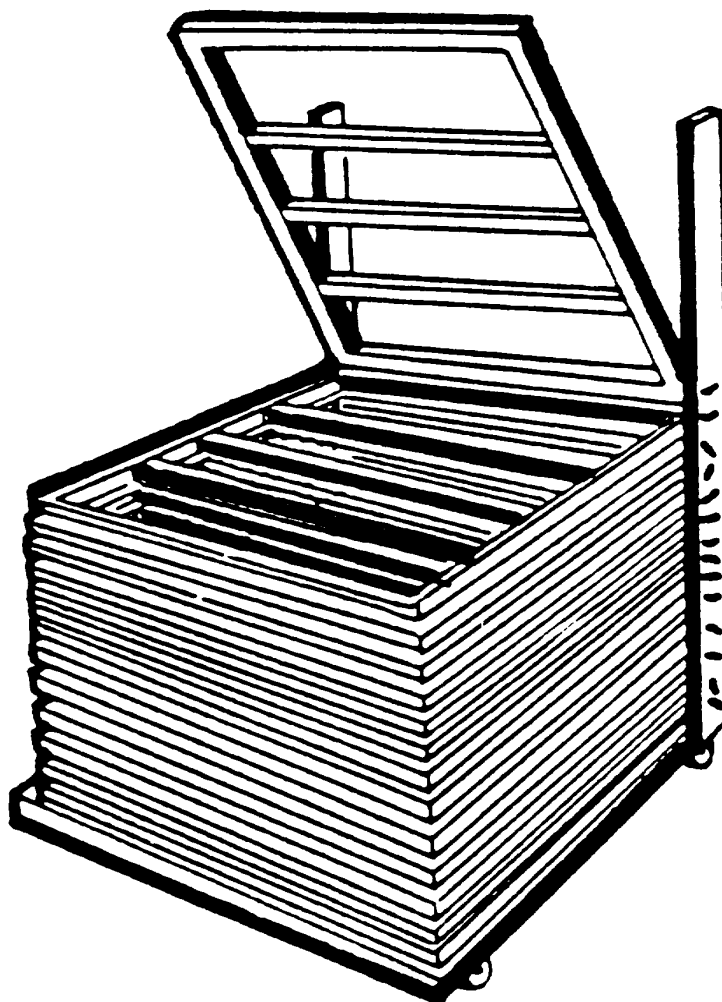

Figure 6-10. Drying Rack
(4) Lift the screen, remove the printed piece, and place it on a drying rack, as illustrated in figure 6-10. To continue the process, insert an unpainted piece, lower the screen, and squeegee in the opposite direction.
(5) When the first color has been applied to all of the pieces that are to be printed, the film or mast must be removed from the silk and replaced with the film that was cut for the second color.
(1) When a job is to be repeated at frequent intervals, the silkscreen frames, with cut film applied, may be stored for future use.
(2) In the handling and storage of silk screen frames, care must be exercised to avoid stretching or puncturing the silk.
(4) Experience will indicate the proper consistency at which the paint should be applied. Because solvent continually evaporates, it is customary to have the replenishing paint slightly thinner than the first portion put into the screen. This procedure brings the consistency of the paint back to that desired immediately after replenishment.
(5) There are various types of space-saving drying racks employed in silk screening. Figure 6-10 illustrates a typical unit.